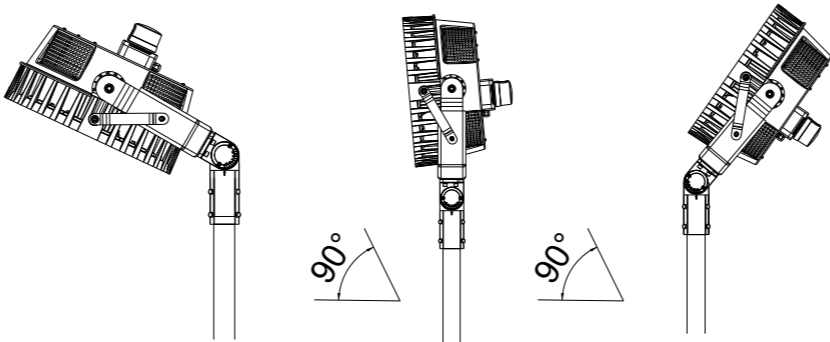

Figure 15
3. Use an open-end wrench and hex wrench to loosen the adjusting screw for adjusting the angle (Figure 15)